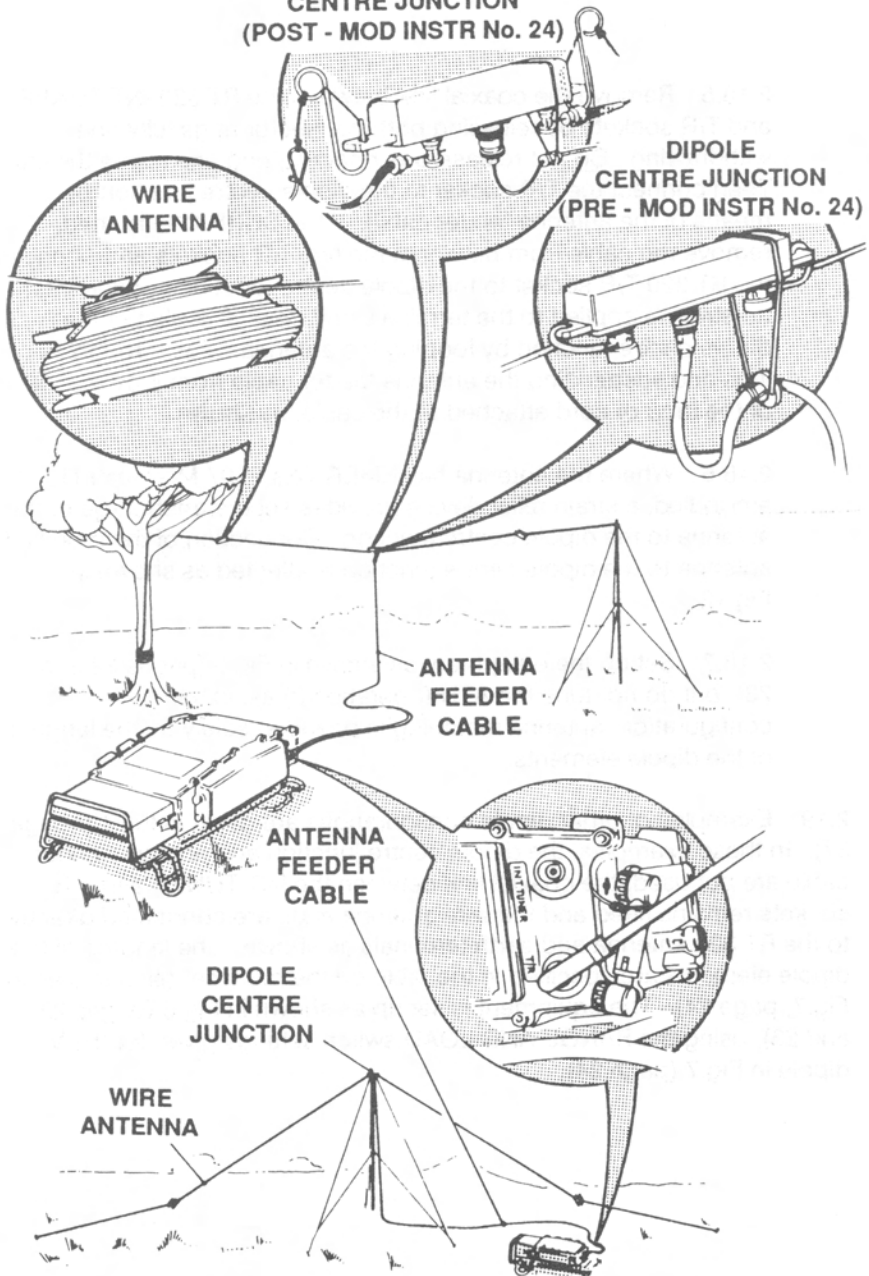

Fig.12 Dipole Configurations using Antenna Feeder Cable
(Fig.12, 13, 14, pages 36, 37, 38)
2.18 The dipole configurations which give best results at maximum range are shown in Fig.12. The setting up procedure for these configurations is as follows:
2.18.3 Erect the horizontal dipole as shown in Fig.12 (the side of a house or wall could be used instead of a tree), using a suitable weight, such as a jack knife, on the throwing cord to get the wire or cord through the branches of the tree. Tie off the cord in the same way as the antenna wire.
2.18.4 When only a 5.4 m mast is available to support the antenna, a centre supported dipole can be used. This dipole is erected as shown in Fig.12 and the dipole centre junction is secured to the top of the mast with a length of cord. The bobbins of the wire antenna are supported by securing the throwing cords to the spare stakes included in the mast kit.
2.18.6 Where the antenna has EMER Tels F597 Mod Instr No. 24 embodied, a strain relief device provides secure anchorage of the antenna to the dipole centre junction. Connection of the modified antenna to the dipole centre junction is effected as shown in Fig.12.